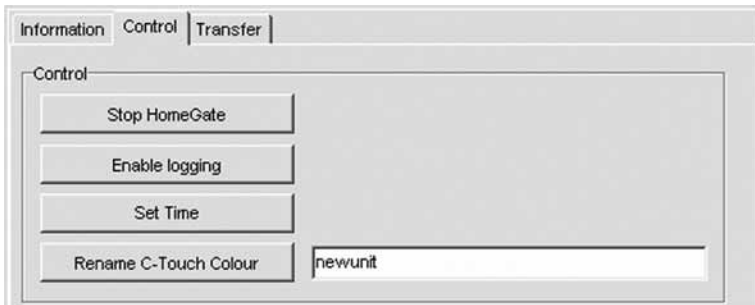

Figure 23. The Control page in the Transfer Utility software
- 16) Click the Control tab to select the Control page shown in Figure 23. From the control screen, you can start and stop the touchscreen's project (in HomeGate), enable logging, set the time and change the name that identifies the touchscreen over an Ethernet connection.